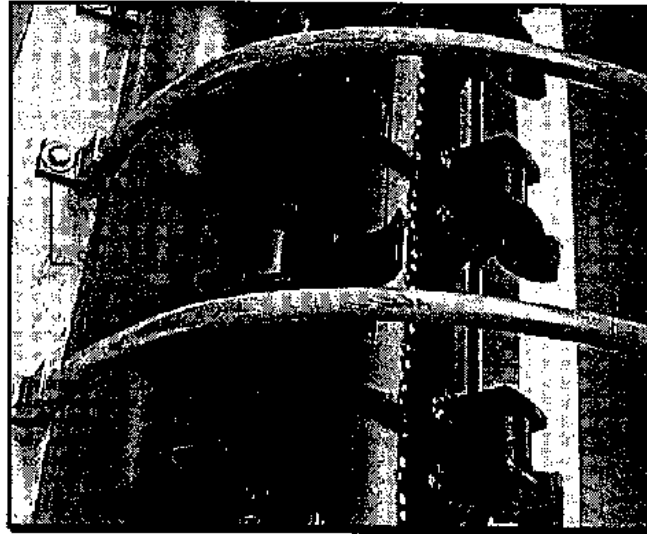

Figure 9
- c. Raise flail guard bars using spacers (Figure 9). This raises the bale decreasing the amount the flail penetrates the bale.